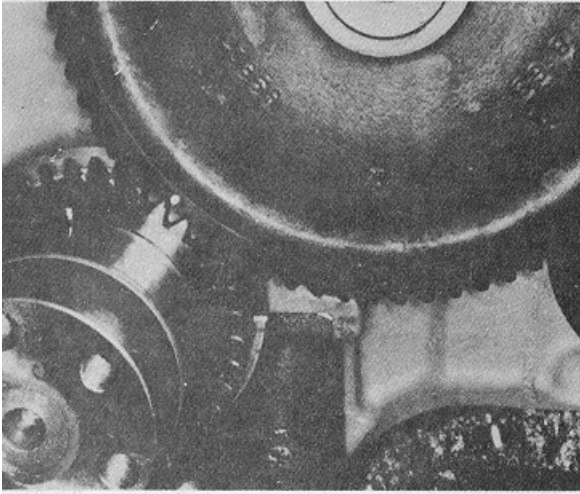

Fig. 14-3, (N114167). Timing marks on camshaft and crankshaft gear
3. Index timing mark on camshaft gear with mark on crankshaft gear. Fig. 14-3.